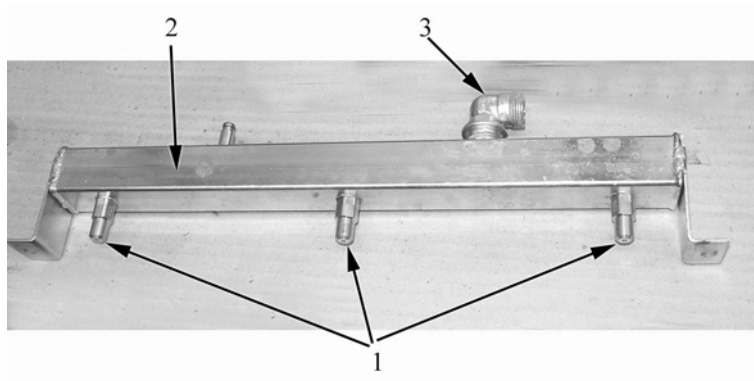

Fig. 7
- the nozzles (item 1 in Fig. 7) are directly installed on the ramp;